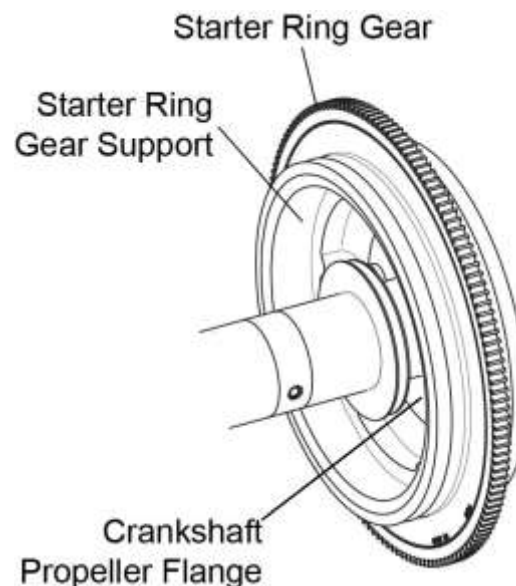

Figure 49
- (2) Remove the alternator belts from the starter ring gear support (Figure 49).
- (3) Remove the starter ring gear support from the crankshaft propeller flange.